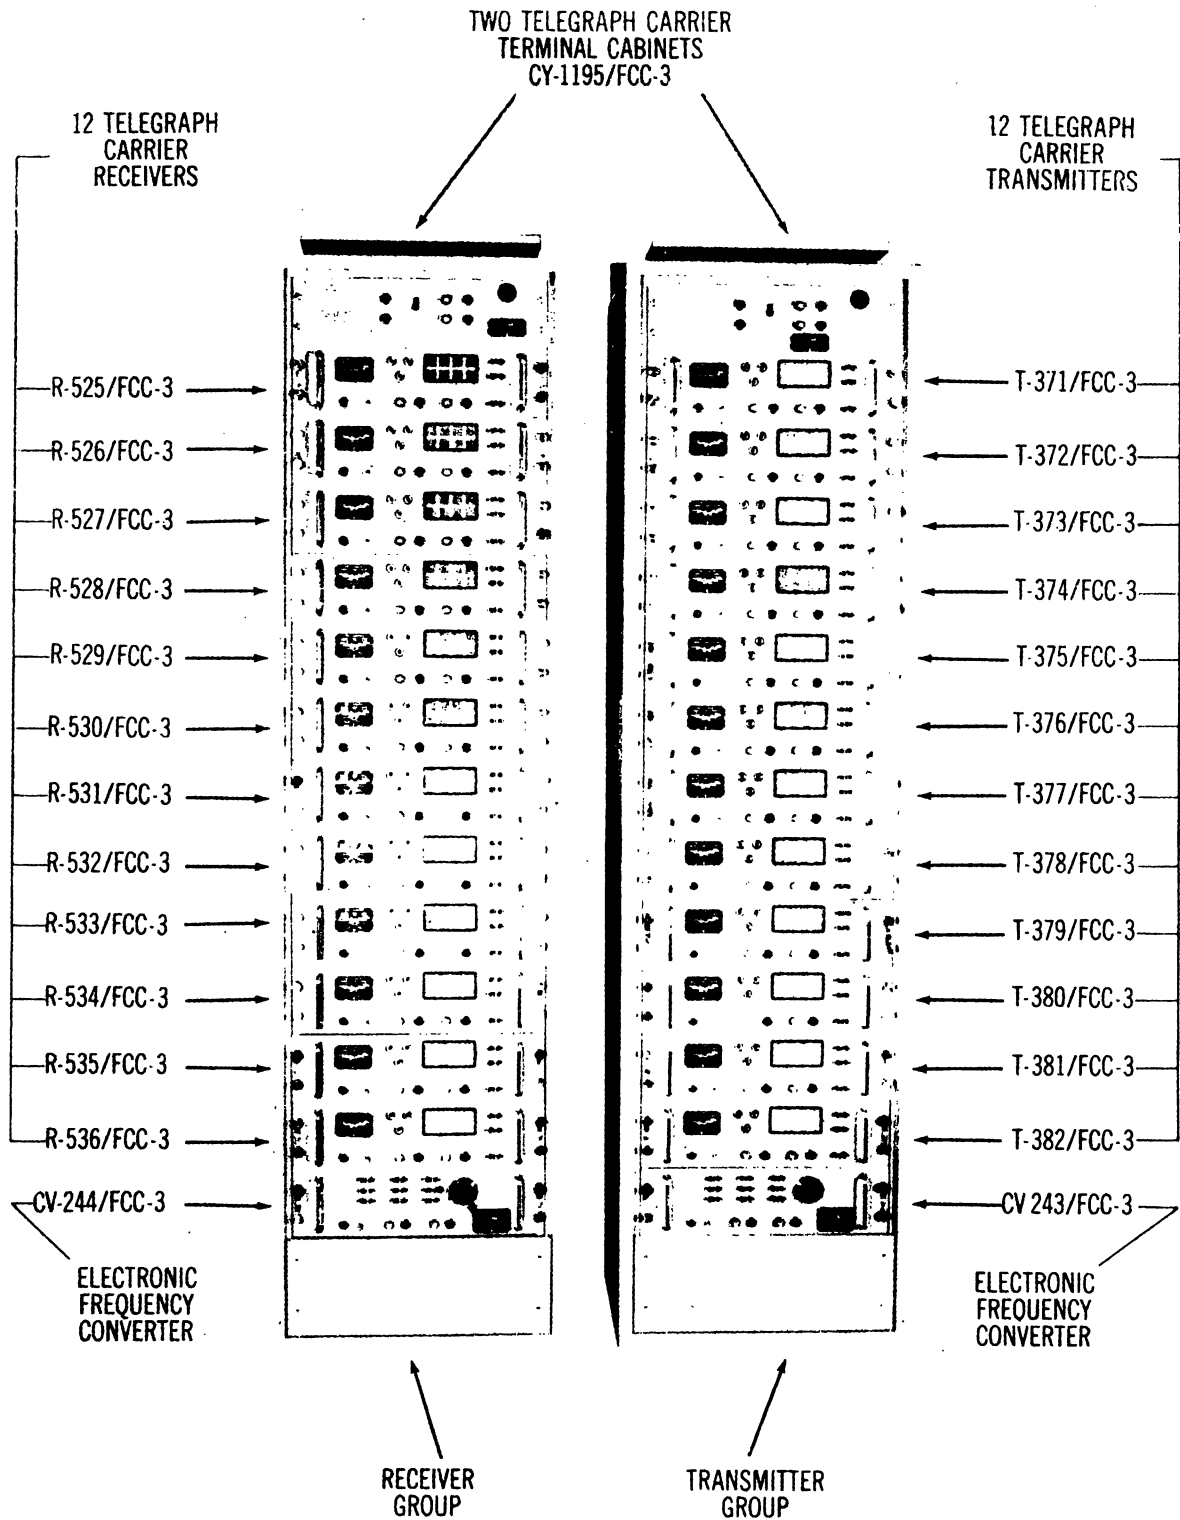

Figure 1-1. Telegraph Carrier Terminal AN/FCC-3, Identification of Units
This instruction book describes and includes information concerning the installation, adjustment, operation, and maintenance of the Telegraph Carrier Terminal AN/FCC-3, as shown in figure 1-1, and the Telegraph Carrier Terminals AN/FCC-7 and AN/FCC-8.
a. GENERAL. - The Telegraph Carrier Terminal AN/FCC-3 consists of two groups as shown in figure 1-1. A group of 12 telegraph carrier transmitters and an Electronic Frequency Converter CV-243/FCC-3 are housed in one Telegraph Carrier Terminal Cabinet CY-1195/FCC-3 and make up one transmitter group. A group of 12 telegraph carrier receivers and an Electronic Frequency Converter CV-244/FCC-3 are housed in another Telegraph Carrier Terminal Cabinet CY-1195/FCC-3 and make up one receiver group. The connecting cables to each unit are brought out to the terminal boards in the rear of the cabinet and are wired at installation to meet the requirements of the individual communication system. The transmitter group cabinet is provided with Wiring Harness CX-2448/FCC-3 which interconnects the transmitter terminal boards, and the receiver group cabinet is provided with Wiring Harness CX-2449/FCC-3 which interconnects the receivers for diversity operation.